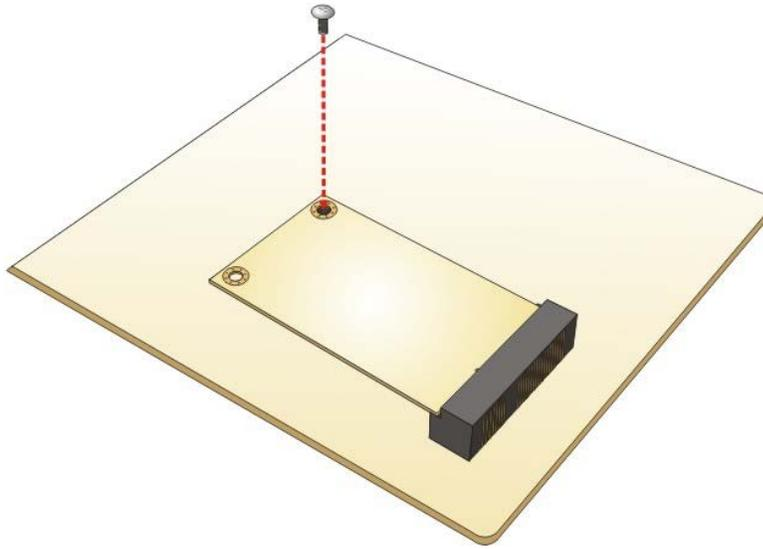

Figure 4-10: Securing the Full-size PCIe Mini Card
Step 4: **Secure the full-size PCIe Mini card.** Secure the full-size PCIe Mini card with the retention screw previously removed (Figure 4-10).